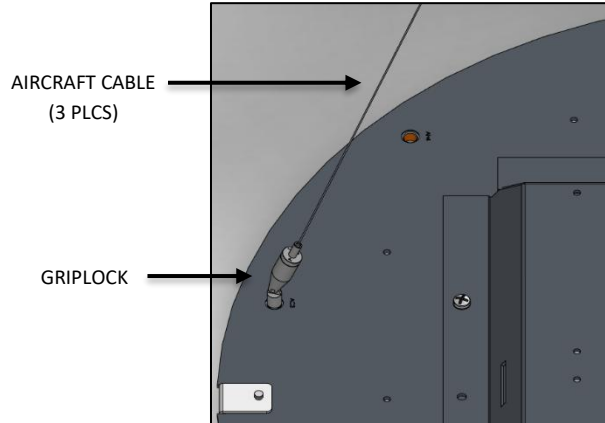

FIG. 24 – AIRCRAFT CABLE INSTALLATION
10. Raise the MOBI fixture with multiple people and feed ALL THREE AIRCRAFT CABLE into the GRIPLOCK, press the plunger of the GRIPLOCK and insert the AIRCRAFT CABLE at least 1.75" into the body of the GRIPLOCK (as shown in FIG. 24).